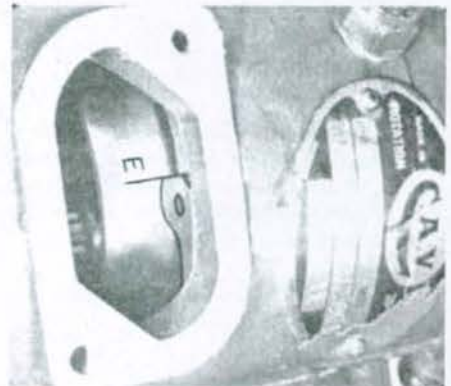

Fig. 95—The "E" timing mark on injection pump rotor should align with square end of snap ring when flywheel timing mark is aligned as shown in Fig. 94.
**98. PUMP STATIC TIMING.** To check pump timing, shut off fuel at fuel tank. Remove timing window cover (C—Fig. 98) from injection pump and remove engine timing window plug from left side of flywheel housing adapter plate. Turn crankshaft until No. 1 (front) piston is coming up on compression stroke and the correct degree mark for static timing is aligned in flywheel timing window (Fig. 94); 16° BTDC for MF245 and MF250, 24° BTDC for MF230, MF235 and MF240. At this point the "E" mark on injection pump rotor should align with square end of snap ring as shown in Fig. 95.